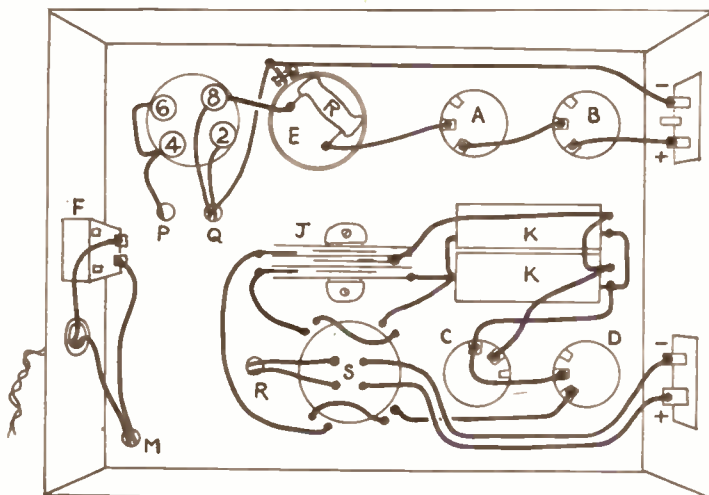

Fig. 2
Now turn to the L.T. section. First find the two 6.3 volt leads on the transformer and pass these through the chassis at (R). Then connect them to the centre tags of the switch as shown in Fig. 2. The other centre tags are taken straight to the L.T. socket on the end of the chassis. Take care the right tag goes to the right socket.